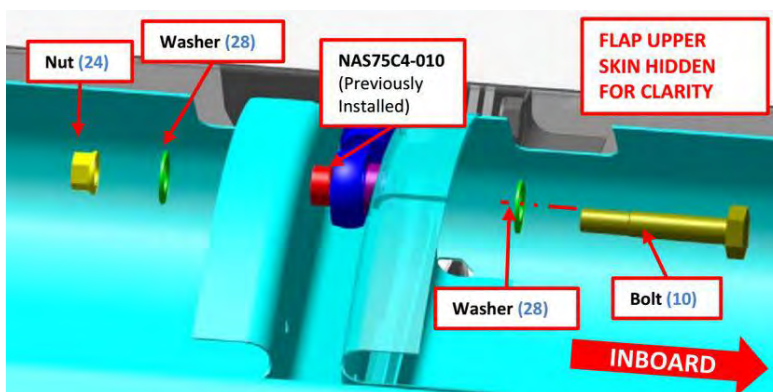

FIGURE 17-5
4. Install the AN4C13A bolt, MS21043-4 nut and two NAS1149C0432R washers that attach the flap pushrod to the flap surface of the affected flap (see Figure 17-5).